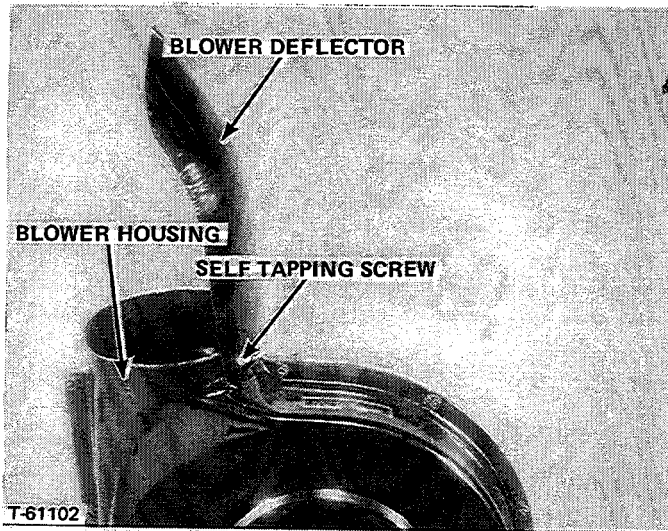

FIGURE 9
1. Install blower deflector on blower housing with 2 self tapping screws as shown in Figure 9.